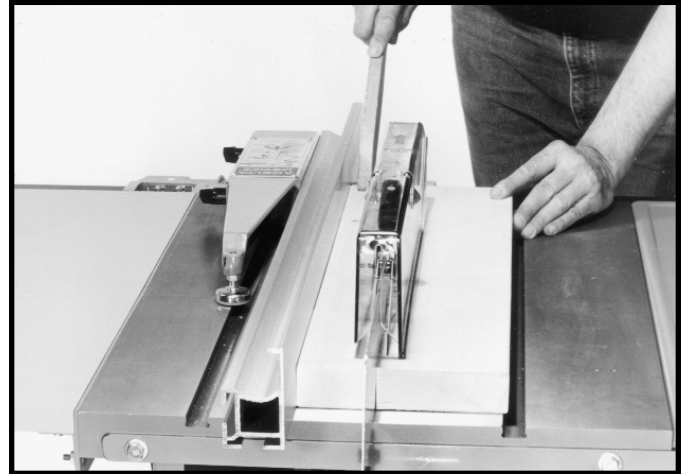

Fig. 55A
3. If the ripped work is less than 6 inches wide, a push stick should always be used to complete the feed, as shown in Fig. 55A. The push stick can easily be made from scrap material as explained in the section **"CONSTRUCTING A PUSH STICK."**